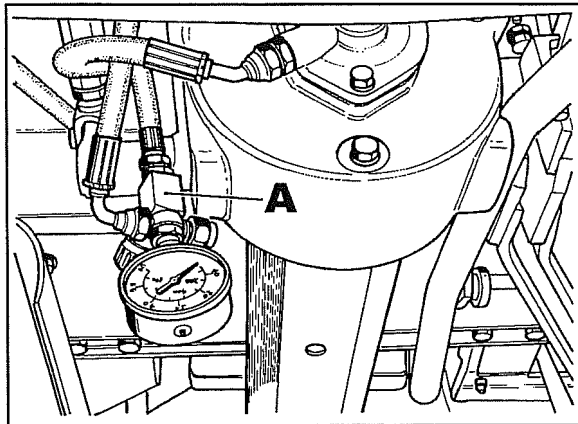
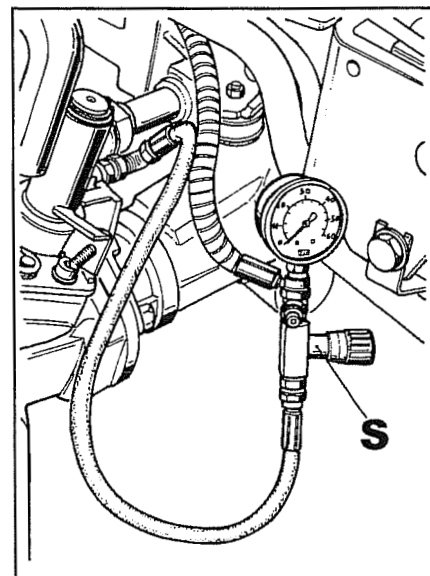

Fig. 13
Fig. 19
- 19 Connect the special device **A** illustrated in fig. 13. to the above-mentioned hose located under the tractor. Close the stopcock on the device and run the engine at 1000 Rpm. Check if the pressure is around 42 bar.
22 Identify the dual traction solenoid. It is connected to the hose with the pressure gauge as shown in fig. 13.
- 26 Install the special device shown in fig. 13 on the brake solenoid delivery hose as shown in fig. 19. Don't forget to close the stopcock **S** to cut out the circuit that would go from the gauge to the brakes.
29 If after doing operation 27, the pressure is exact-i.e., around 40 bar, continue to look for the problem by opening stopcock **S** fig. 19.